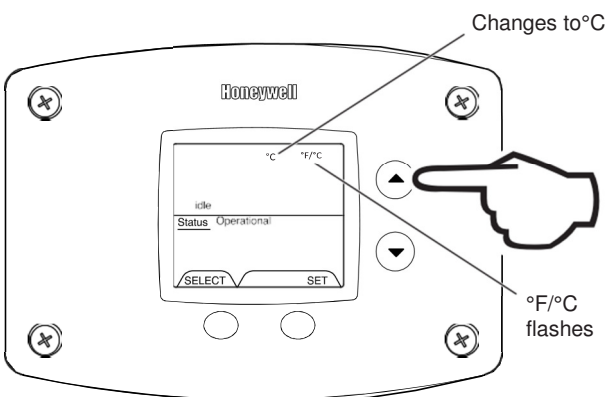

Fig. 22
- 3a. Press 'Temperature Up' button to change temperature format to °C (Fig. 22).